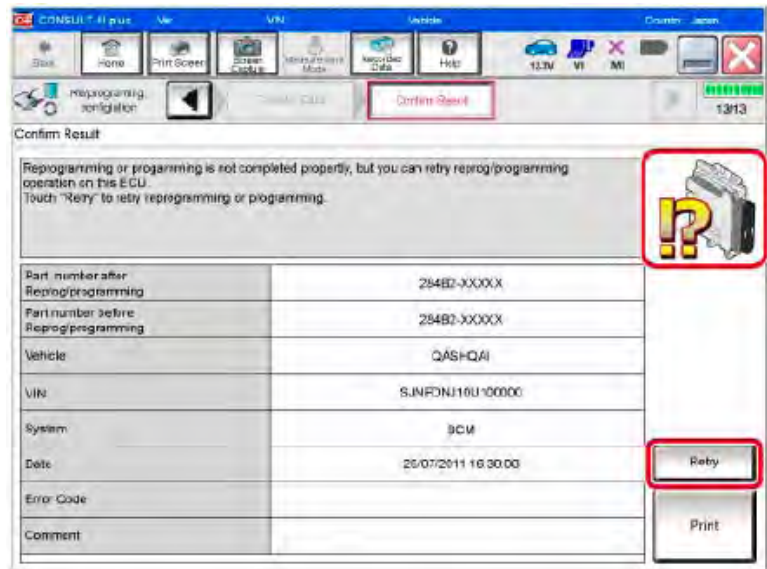

Figure 6
**If reprogramming does not complete and the “!” icon displays as shown in Figure 6:**